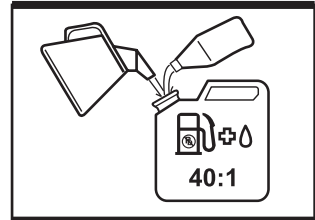

Fig. 8a
- 4). The recommended mixing ratio for petrol : oil is 40:1. (See Fig. 8a)